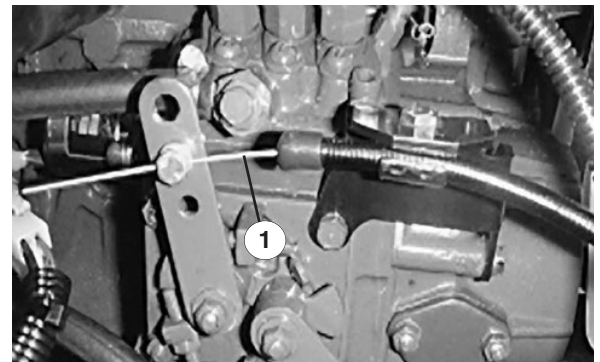

Figure 30
1. Adjust the throttle cable (Fig. 30) so the governor lever on the engine contacts the low- and high-speed set bolts before the throttle lever contacts the slot in the control panel.